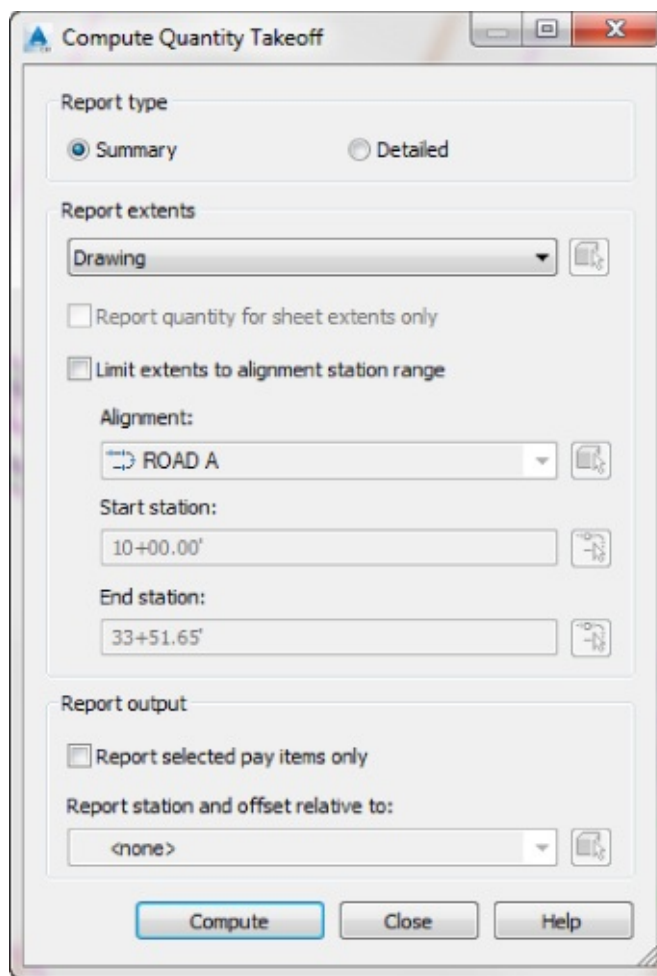

Figure 17.21 The Compute Quantity Takeoff dialog with default settings
2. From the Analyze tab > QTO panel, choose Takeoff to display the Compute Quantity Takeoff dialog, shown in Figure 17.21.